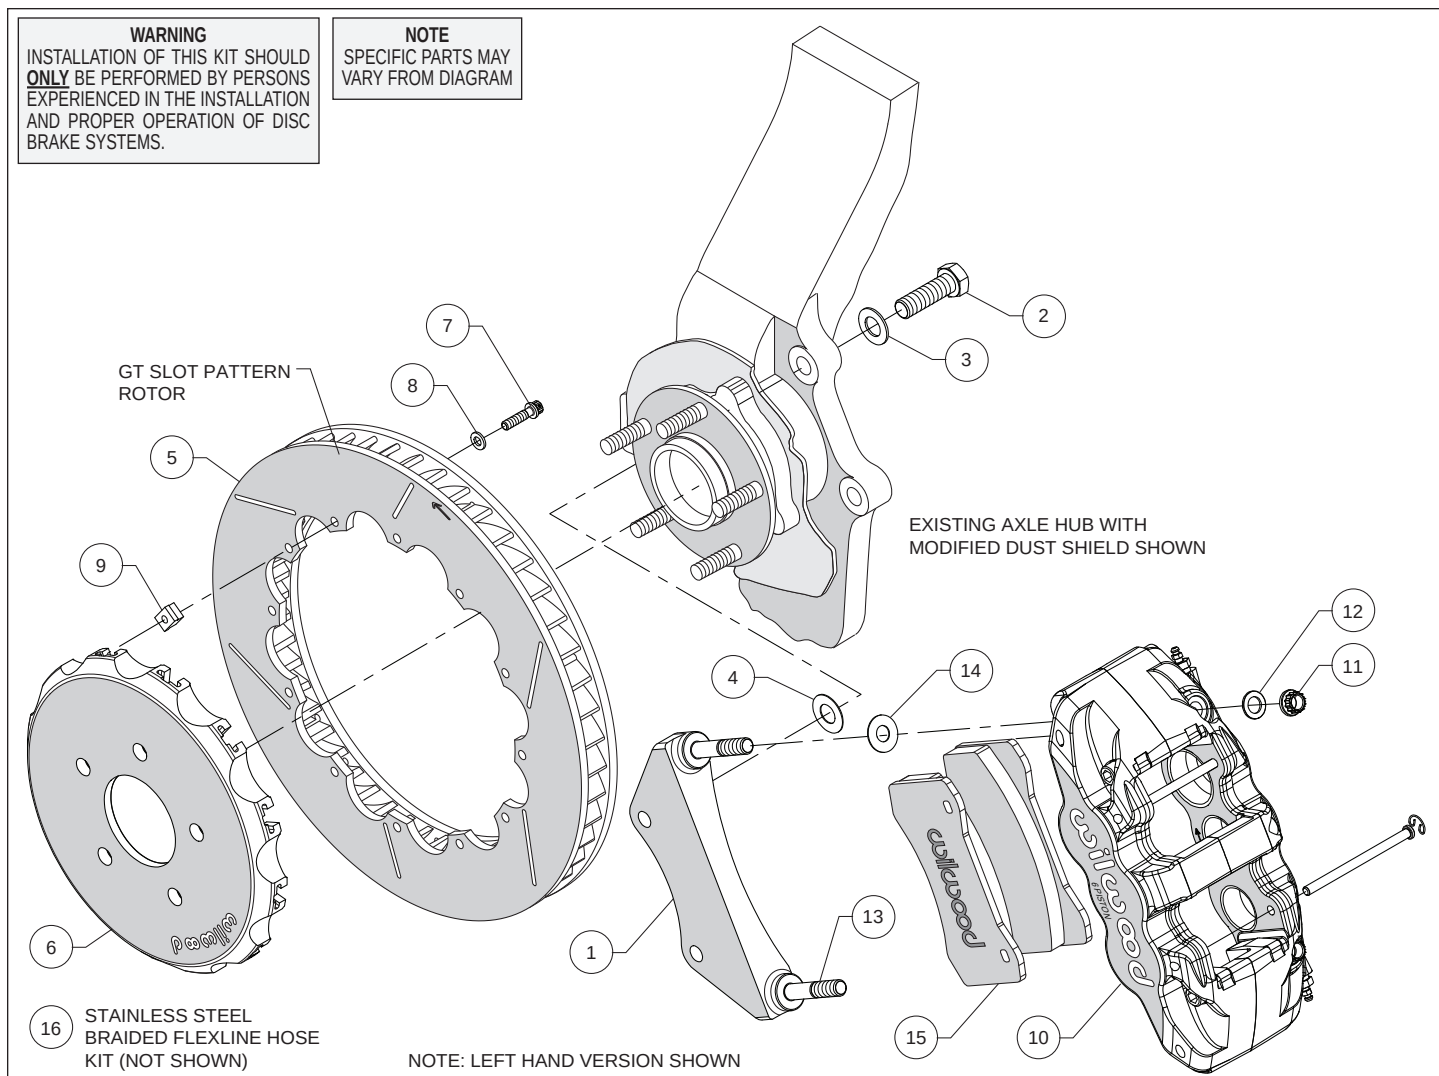
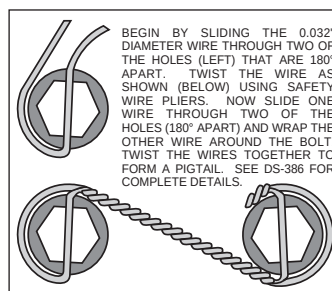

Figure 1. Typical Installation Configuration
Figure 3. Safety Wire Diagram
Assembly Instructions (numbers in parenthesis refer to the parts list and Figure 1 on the preceding pages):
- The caliper mount bracket (1) should initially be installed with clean, dry threads on the mounting bolts. Orient the bracket as shown in Figure 1 and Photo 2, and install using bolts (2) and washers (3). Initially place one .029 thick shim (4) on each bolt between the bracket and upright, Figure 1. Temporarily tighten the mounting bolts. **NOTE:** The bracket must fit squarely against the mounting points on the upright. Inspect for interference from casting irregularities, machining ridges, burrs, etc. Later, after the caliper alignment has been checked, the mount bolts will be secured using red *Loctite*® 271.
- Orient the rotor (5) and the hat (6) as shown in Figure 1 and Photo 3. Attach rotor to hat using bolts (7), washers (8), and t-nuts (9), Figure 1. Follow additional instructions included with the bolt kit. Using an alternating sequence, apply red *Loctite*® 271 to the threads, and torque to 120 in-lbs. Safety wire bolts using standard 0.032 inch diameter stainless steel safety wire as shown in Figure 3. Please refer to Wilwood's data sheet DS-386 (available at www.wilwood.com/Pdf/DataSheets/ds386.pdf) for complete safety wire installation instructions.
- NOTE:** This kit contains distinct right and left hand calipers that must be mounted in a specific direction, as described below. Lubricate the caliper mounting studs (13) with lightweight oil. Initially place one .030" thick shim (14) on each stud between the caliper and the bracket, as shown in Figure 1 and Photo 4. Mount the caliper (10) onto the bracket (1) using lock nuts (11) and washers (12), Figure 1. Ensure that the caliper is mounted so the largest pistons are at the rotor exit end of the caliper, in relation to the direction of rotor rotation. Temporarily tighten the lock nuts and view the rotor through the top opening of the caliper. The rotor should be centered in the caliper, Photo 5. If not, adjust by adding or subtracting shims (4) between the bracket and the upright. Always use the same amount of shims on each of the two mounting bolts. Once the caliper alignment is correct, remove the bracket mounting bolts (2) one at a time, apply red *Loctite*® 271 to the threads, and torque to 77 ft-lbs.
- Remove the two pad retaining pins from the caliper (10) by carefully popping out the pin retaining clips and sliding out the pins. Insert the brake pads (15) into the caliper from the bottom, Figure 1 and Photo 6. With the friction material facing the rotor, secure the brake pads in place with the pad retaining pins and clips, Photo 7. Reinstall the caliper (10) onto the caliper mounting bracket (1) and temporarily tighten the lock nuts (11). Check that the top of the brake pad is flush with the outside diameter of the rotor, Photo 8. If not, adjust by adding or subtracting shims (14) between the caliper and the bracket. After the caliper pad height is set, torque the caliper lock nuts (11) to 47 ft-lb.